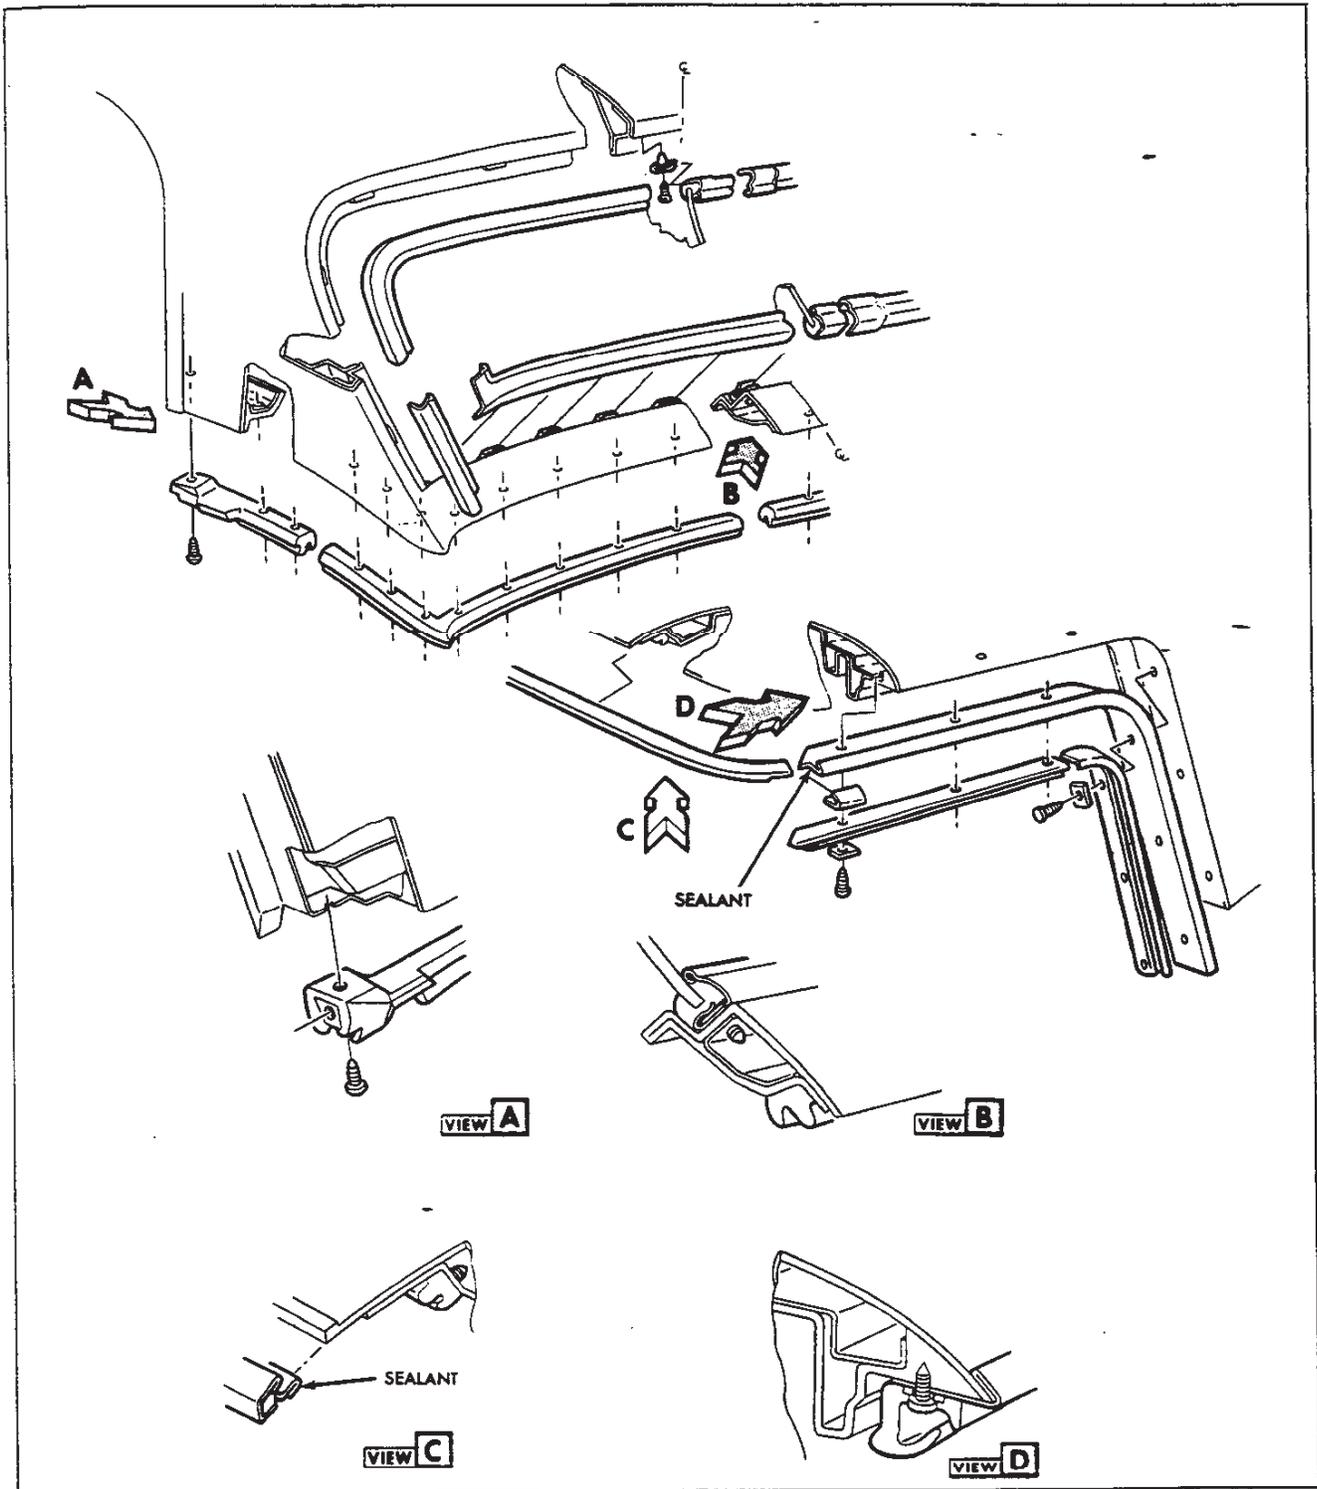

Fig. 60—Molding and Weatherstrip (Convertible Hardtop)
Refer to Figures 60 and 61 for parts identification.
As shown in Figure 60, door window weatherstrip and drip molding are retained by screws to top assembly. Side outer and rear outer weatherstrip are mounted to body at ends by screw and around periphery by special plastic retaining clips. Weatherstrip is replaced by removing two (2) screws and carefully pulling outward at clip location.